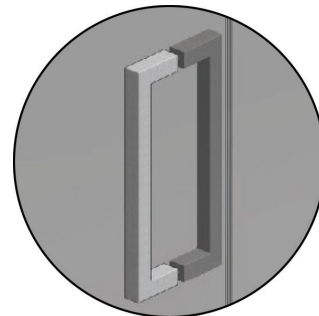

FIG 26.
- Install the door handle with grub screws on outside of shower (FIG 26).